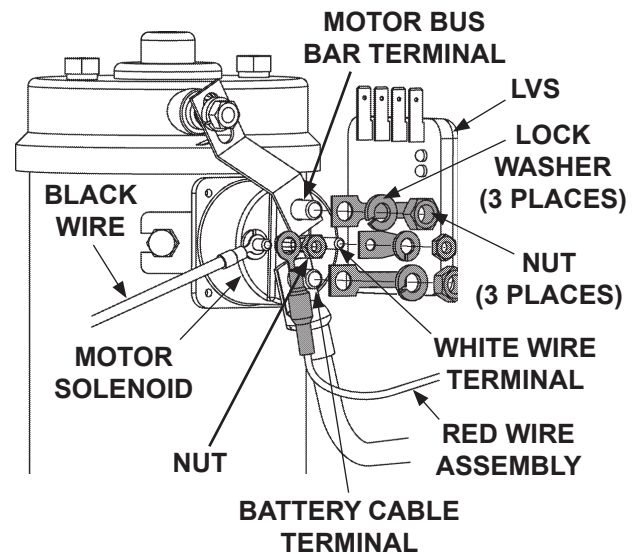

FIG. 3-1
3. Connect red wire assembly (Kit item) to the black wire terminal on motor solenoid (**FIG. 3-1**). Then, connect the LVS to the 3 terminals on the motor solenoid as shown in **FIG. 3-1**. Tighten all 4 nuts securely, but do not over-tighten.